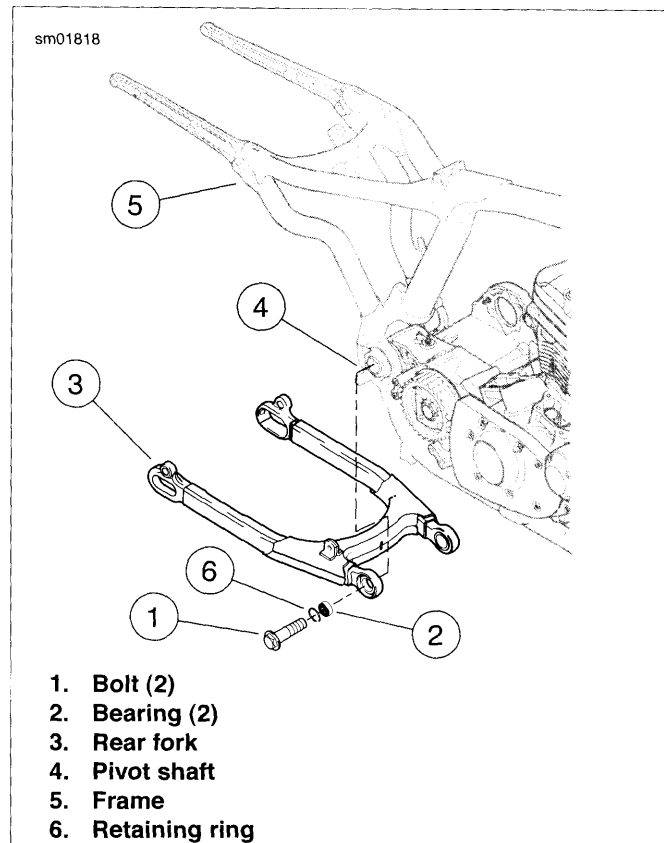

Figure 2-195. Rear Fork Assembly: All Models (XL Shown)
12. See Figure 2-195. Support rear fork (3). Remove rear fork/engine mount bolts (1) and pull fork assembly from frame.
See Figure 2-195. Remove pivot bearings (2) only if replacement is required.
2. See Figure 2-195. Make sure pivot bearing retaining ring (6) is not bent or damaged. If it is, replace it with a **new** retaining ring. Make sure retaining ring is fully seated in the groove in each bearing (2).
3. Check that rear fork (3) is not bent, twisted or cracked. Replace if damaged.
1. See Figure 2-195. If necessary, press **new** bearings (2) into position in rear fork, using BEARING REMOVER/INSTALLER TOOL (Part No. HD-46281):
2. See Figure 2-195. Holding rear fork assembly in position, install rear fork/engine mount bolts (1). Tighten to 60-70 ft-lbs (81.4-95.0 Nm).